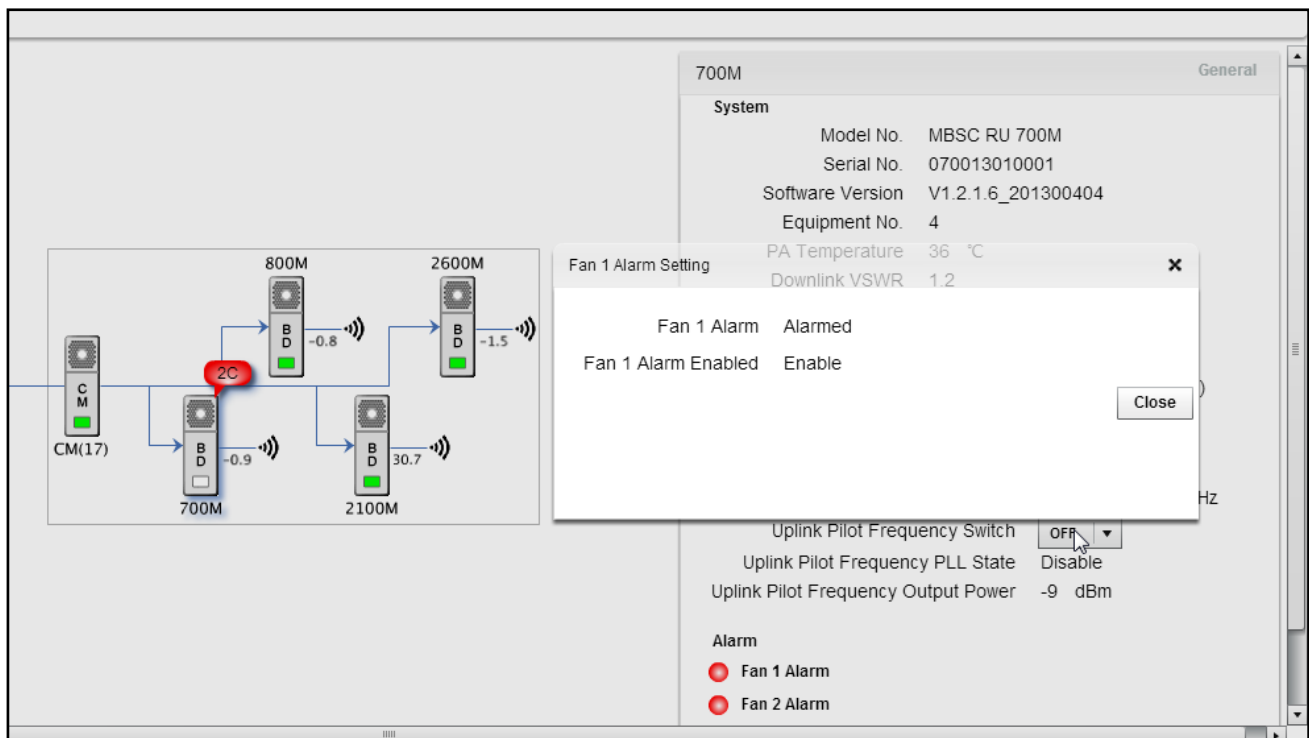

Figure 51 - Remote Node Alarm Status
1. Click on the RU in the topology diagram and the component window will pops up on the right as shown in Figure 51 - RU Attenuator.
1. Click on the RU in the topology diagram and the component window will pop up on the right as shown in Figure 51 - RU Attenuator.